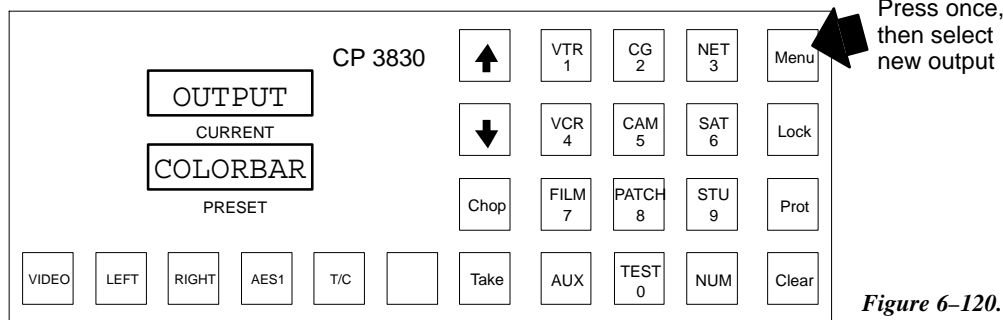

Figure 6–120.
- selecting a destination on the CP 3809 Expansion Panel (if so equipped—see Figure 6–122), or by